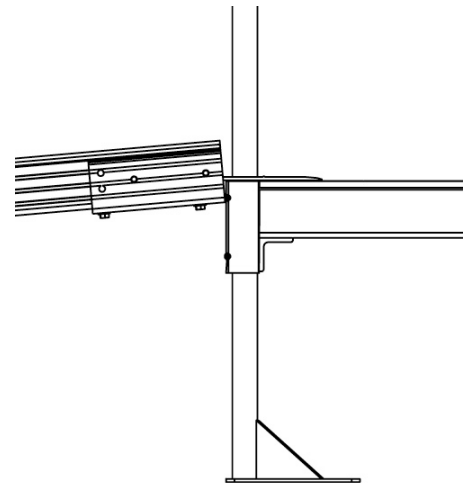

FIG. 16
- 3.3 Position ramp section so that the transition plate fully overlaps the platform surface as shown in FIG. 16. Make sure that the top transition plate overlaps the supporting surface as far as possible. **Note:** The transition plates may not rest flat on platform at this point and this is normal (transition plates will be secured later, as shown in FIG. 42).